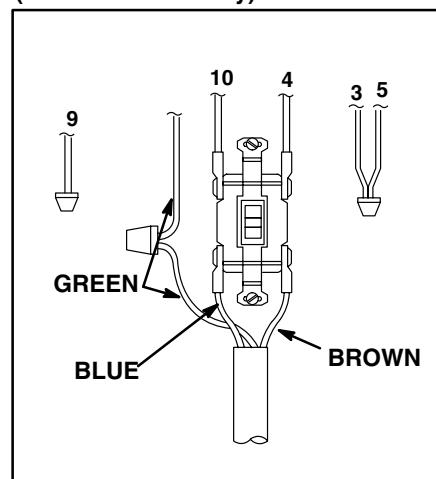

Fig 13
1. Remove the shield (1 19), the four screws (9) and washers (17) and the upper fan guard (82). Loosen the fan blade setscrew and remove the fan (26).
2. Remove the switch box cover (34) and disconnect the power cord wires. Do not scratch the smooth mating surfaces of the switch box (65) and cover (34).
3. Drive out the two spring pins (16) and then pull out the handle (75). Hook the switch box conduit with a hoist and lift the unit about 6 in. (150 mm) off the floor. Pull the cart frame (74) down out of the support mounting (44) and move it out of the way.
4. Remove the eight screws (4) and washers (5) holding the reservoir mounting (44). Raise the unit high enough for the reservoir (66) to clear. Pull the reservoir down off the unit and pour out the hydraulic fluid.
5. Carefully lower the unit and tilt it back until the arms of the support mounting (44) are resting on the floor.
6. Put the cart handle (75) through the arms. Hold the hook on the switch box (65) as you lower the unit to make sure it doesn't slip off.
7. Remove the four electric motor mounting screws (7 – see page 20), hold the motor (63) by the shaft and switch box (65), and then rock it from side to side to free it from the support mounting. Carefully pull it out of the cooling coils (46).
8. Screw the switch box (65) and nipple (11 – see page 20) out of the motor. Take the coupling off the motor shaft and install it on the new motor. When installing the nipple and switch box, engage the threads at least five full turns.
9. Carefully slide the new motor through the cooling coils (46), forcing it into the support mounting, and tightly install the mounting screws.
10. Set the gap between the two coupling halves at 0.31 in. (0.8 mm), and then tighten the coupling setscrew securely. See Fig 13, page 19.
11. Clean the reservoir (66) of sediment and reassemble the unit using a new gasket (47). Fill the hydraulic fluid reservoir through the fill hole filter (55).
Electric motor wiring diagram See Fig 13.